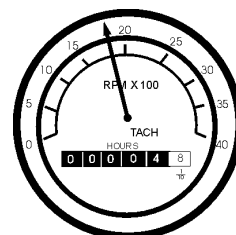

Figure 51. Engine
11. The **tachometer gauge** (Figure 51) will indicate the speed of the engine when the generator is operating. Under normal operating conditions this speed is approximately 1600 RPM's.